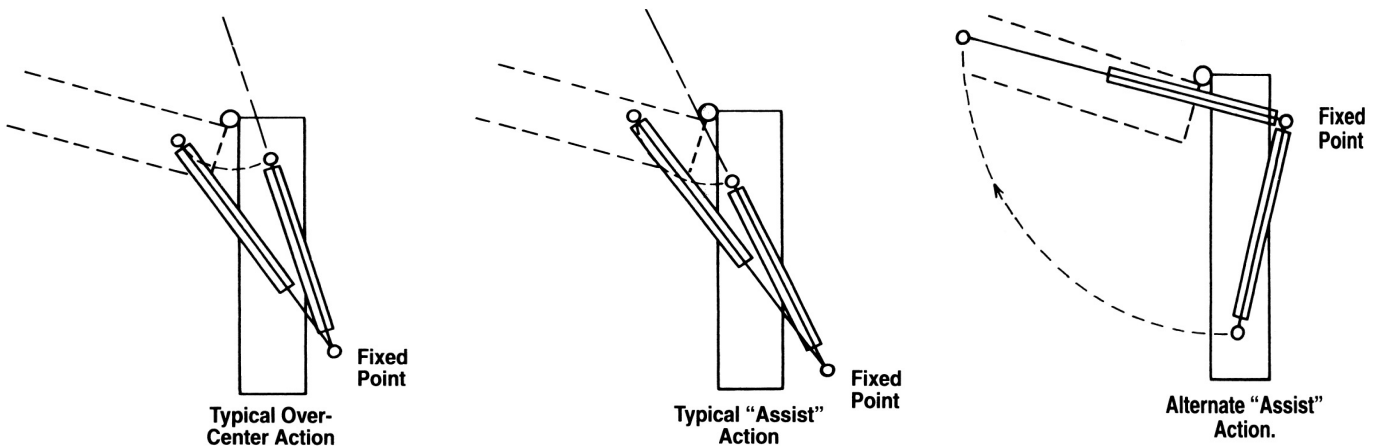

FIGURE 4 (includes all three diagrams)
12) Desired action using Pneu-Spring (Fig 4): check one
- _____ to go over center installation provides two actions: (1) in the closed position, it keeps the door closed and (2) it provides an assist in opening the door